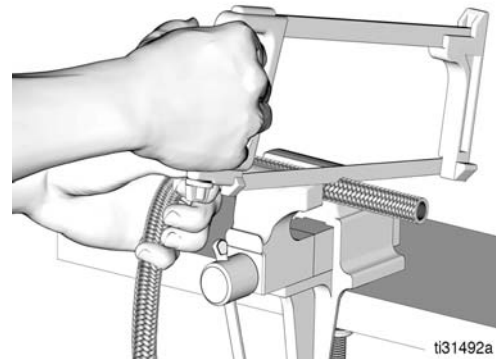

FIG. 57
2. Cut the hose square with a fine-tooth hacksaw or cut-off wheel (FIG. 57).